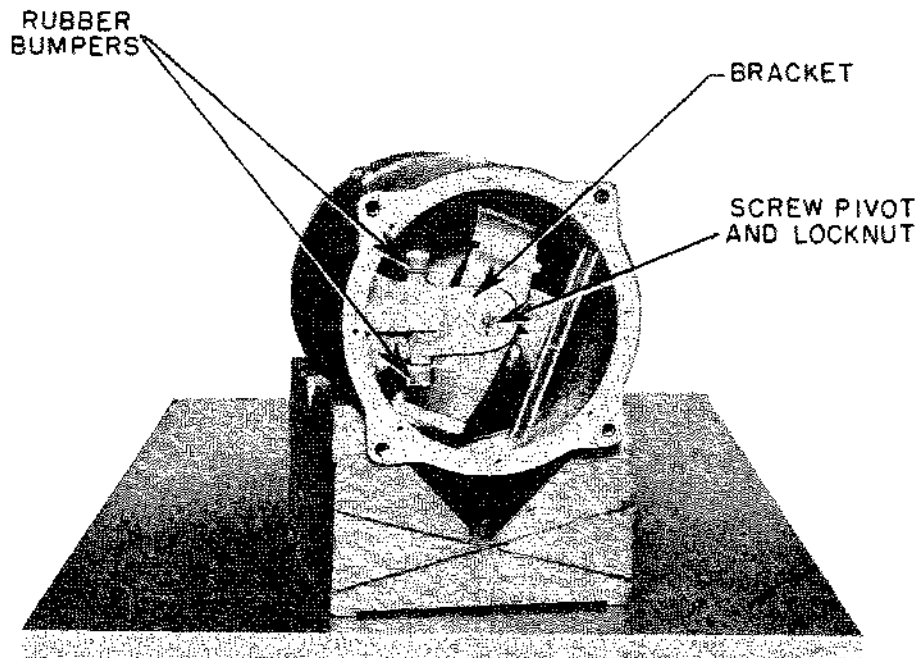

FIGURE 48 REPLACING THE INSTRUMENT IN THE CASE
4. Hold case in left hand with bracket end up and recessed flange at bottom toward you. (For Gyro-Horizons with caging device, see that the caging mechanism is turned to its full uncaged position.) Hold instrument in right hand with pendulum assembly up. Gently raise instrument into case, watching through front end to see that ball bearing housing in side of gimbal ring passes through recessed flange, and that pointer does not scrape opposite side of case. As the bearing in the front end of the gimbal ring approaches the pivot in the case bracket, tilt pendulum assembly forward slightly. This will move pointer away from bracket and permit gimbal bearing to be moved into place on pivot. See Fig. 48. Carefully turn complete assembly upside down (face down) and rest the case on front cover, so as to protect the pointer bar.